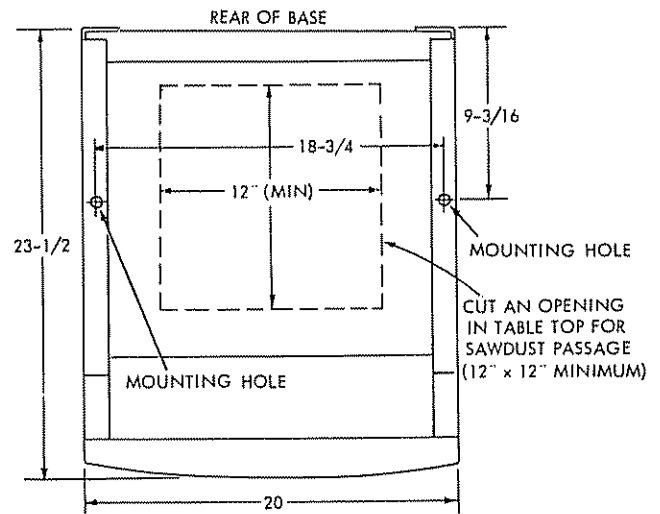

Figure 49
2. Measure and mark the two hole locations in bench (or table), using the dimensions shown in figure 49. (Dimensions are given from hole centers.)